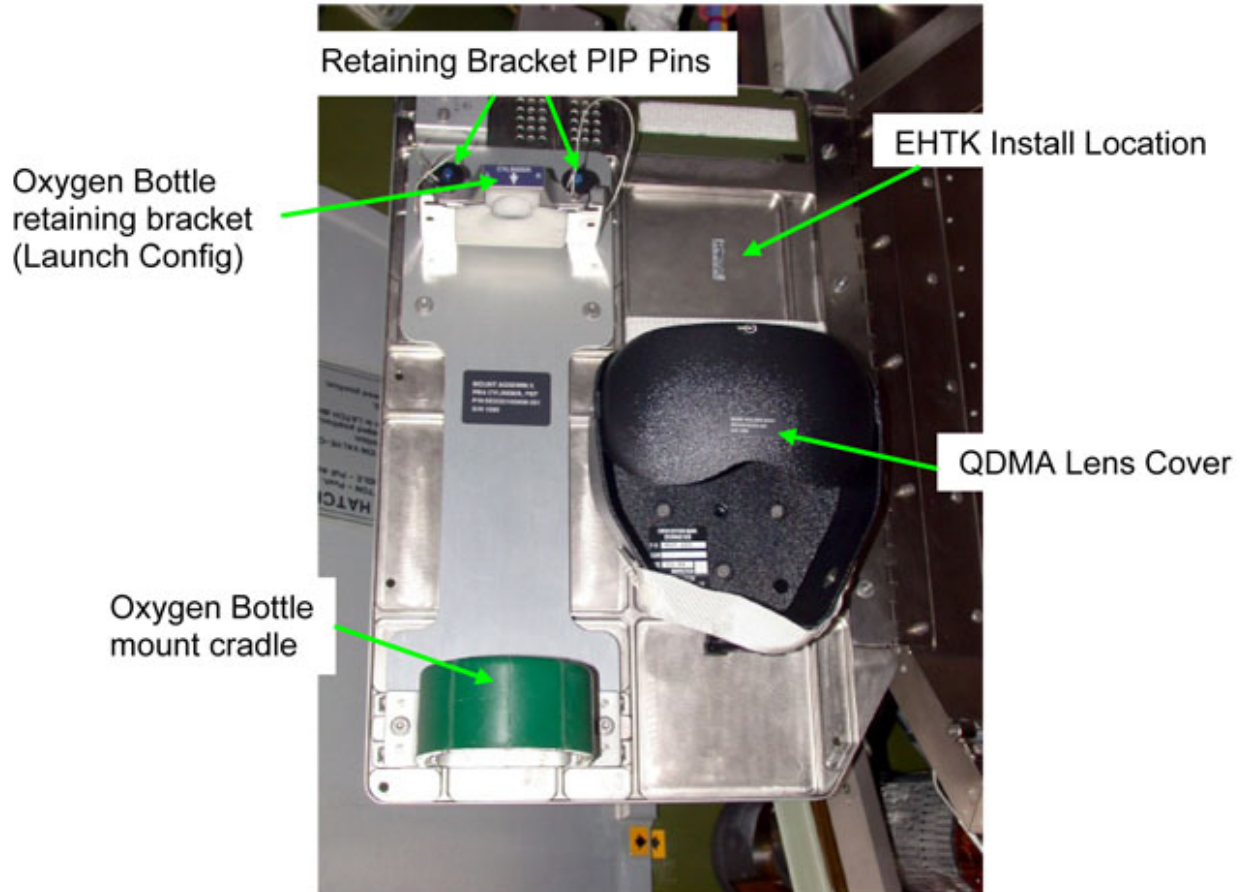

Figure 6. PBA Install Location.
- 2.1 Unstow and install, Extension Hose Tee Kit (EHTK) using Velcro, on Emergency Box Door. Refer to Figure 6.
Refer to Figures 6, 7, 8, 9.
Refer to Figures 6, 7, 9.
- 3.3 Remove tethered PIP Pins (two) to release front and rear brackets. Refer to Figures 6, 7, 8, 9.
- 3.5 Horizontally rotate front bracket and install with two cutouts, and orientation arrow pointing down. Reinstall PIP Pins. Refer to Figures 6, 7, 9.